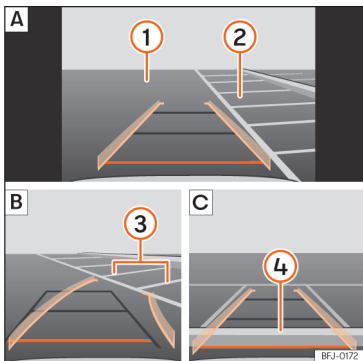

Fig. 156 Display on the infotainment system screen: parking with the reverse assistant.
Key to the >>> Fig. 156:
- Stop the vehicle in front of the parking space >>> Fig. 156 **2** **A**.